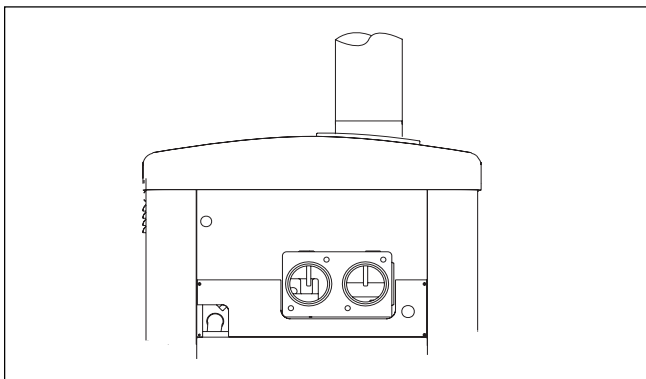

Figure 6. Vent Pipe Installation
3. Install the vent pipe on the indoor vent collar. The collar will accommodate vent piping of nominal 7" or 9" diameter (see Table 4), depending upon the model of your heater (See Figure 6). See vent installation section for important information on selecting proper pipe size.